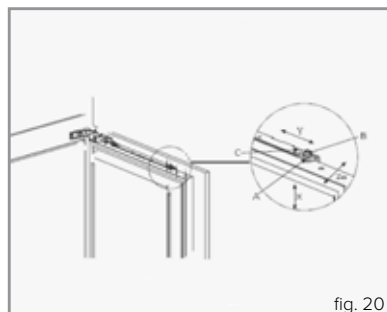

fig. 20
The position of the fascia doors can be made in all 3 axes by following the guide shown below (figure 20). If the range of adjustment detailed below is not enough then the refrigerator is not located correctly in the cabinet and/ or the upper fascia fixing plates are incorrectly positioned.
1. Open the door and lift out the decorative covers (marked 'a') in figure 20